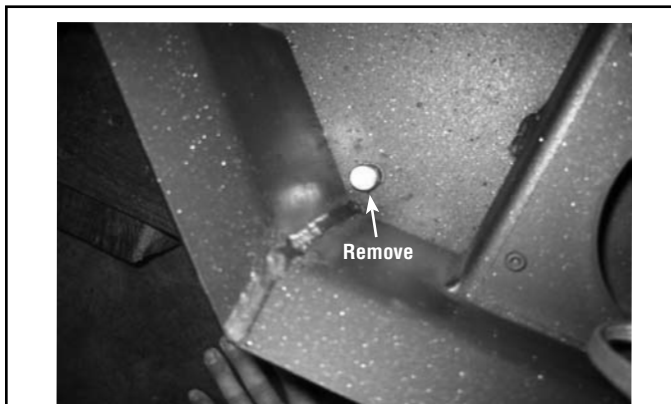
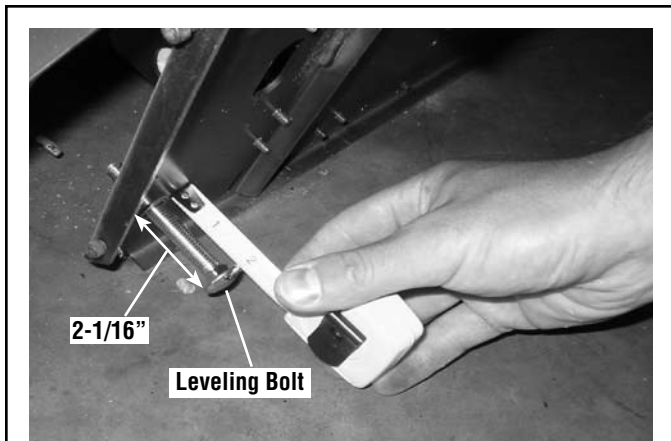

Figure 3
Figure 4
Step 1. Install the 2" lower trim piece - Fasten the 2" trim piece underneath the base of the front of the insert as follows; use a 5/32" allen wrench or T-handle wrench to secure the 2 screws (Item C) provided, one at the left side and one at the right side base of the insert. **Note:** This process will be simplified by very cautiously tilting the insert back (see Figure 3).
Step 2. Install your four leveling bolts (provided with the appliance). Open the main front door and remove the two bolts in the front right and front left of the bottom of the firebox (see **Figure 3**). **Note:** *Placing a level on the insert top is recommended to ensure your insert is level.* Again with the insert very cautiously tilted back, insert your four leveling bolts approximately 2-1/16 inches into the holes provided at the bottom of the insert see **Figure 4**.